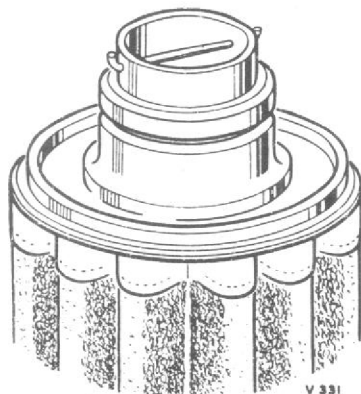

Fig. 4. The pressure filter end plate locking
- (2) Position a new filter element (Part No. 22772), another new washer (Part No. 94039) and the end plate over the support tube.
- (3) Secure the end plate with 14 s.w.g. soft iron locking wire, bend the wire over, ensuring that the ends do not project beyond the outside diameter of the end plate boss (fig. 4).
- (4) Fit a new sealing ring (Part No. N6892) to the groove in the end plate.
- (5) Position the overload valve spring over the boss at the far end of the pressure filter housing.
- (6) Position the pressure filter assembly in the housing with the support tube located in the bore of the boss at the far end of the housing.
- (7) Position a new joint washer (Part No. 29915) and the pressure filter cover to the sump with the spigot on the cover locating in the bore of the support tube.
- (8) Secure the cover with a lock-wire tab adjacent to the plug hole, and six spring washers and nuts.
- (9) Screw the oil thermometer bulb into the cover.